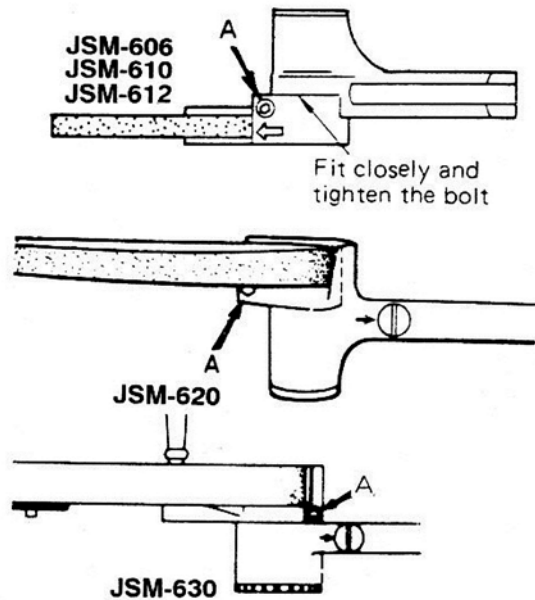
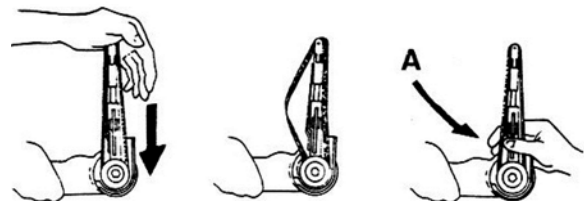
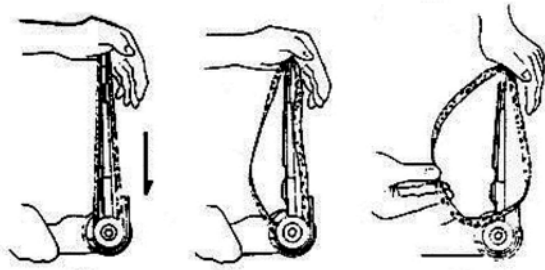

Figure 2
Figure 5
Figure 6
4. Adjust head to desired angle and tighten hex socket cap screw (A, Figure 2), with hex wrench supplied.
2. Loosen hex cap screw (A, Figure 2), turn head 90-degrees to the handle, and tighten screw to lock. See Figure 5.
3. Steady the sander with one hand while pushing down on the idle wheel assembly with the other until assembly locks in place. See Figure 5.
5. Press safety lever (A, Figure 5) to tension belt.
2. Loosen hex cap screw (A, Figure 2), turn head 90-degrees to the handle, and tighten screw to lock. See Figure 6.
5. Push idle pulley assembly down and place belt on drive pulley. See sequence in Figure 6.
2. Loosen hex cap screw (A, Figure 2), turn head 90-degrees to the handle, and tighten screw to lock.